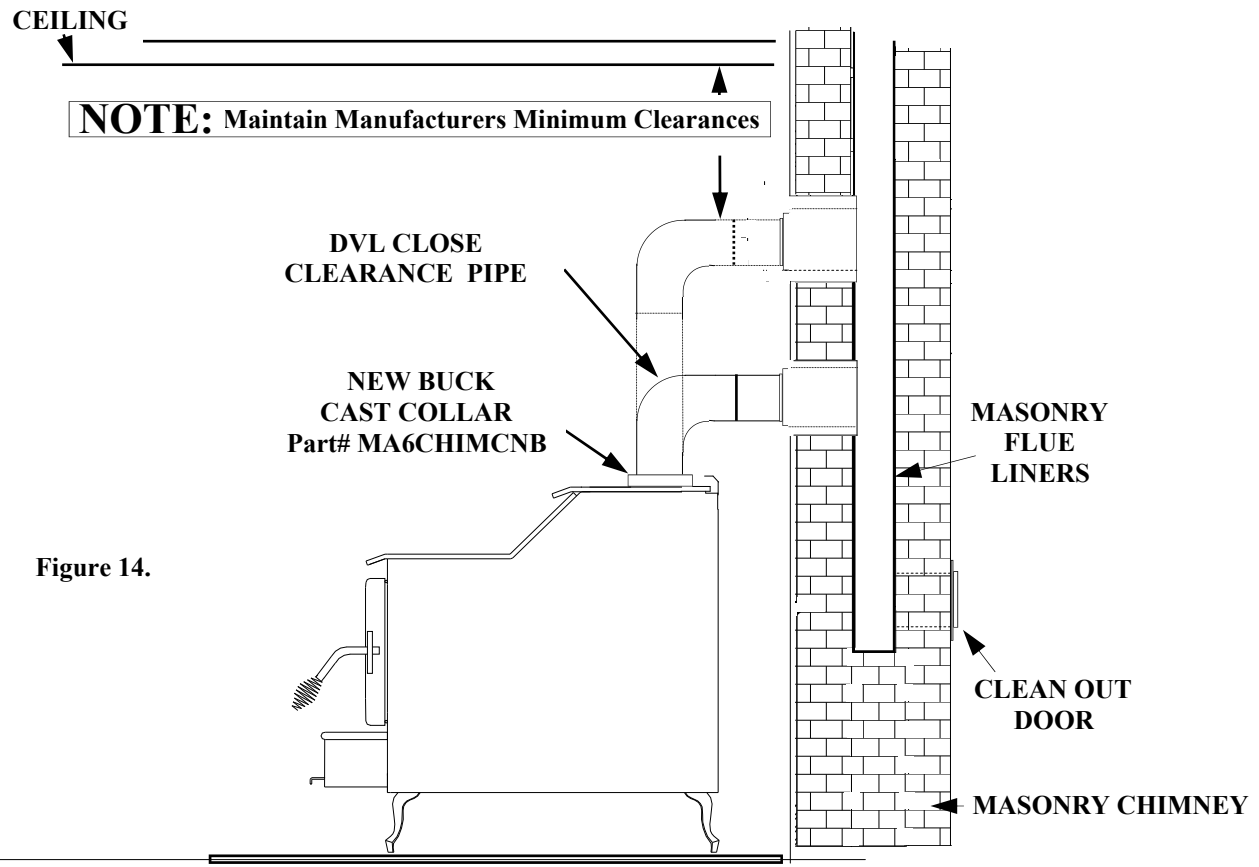

Figure 14.
- (c) Secure each section to each other using at least three (3) sheet metal screws or rivets.
- (d) Use three (3) sheet metal screws to fasten pipe to New Buck Cast Collar on heater. after New Buck Cast Collar Part# MA6CHIMCNB has been attached to stove. (See Page 19 Figure 14).